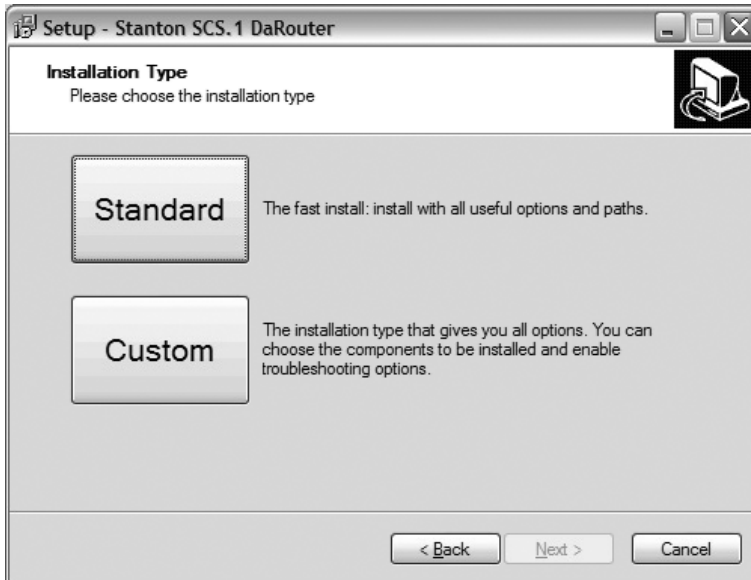

Figure 4.3
3. To install the software for the first time, choose the **Standard** option. To update your previously installed version, choose **Custom**. In this example, let's choose **Standard**. (Figure 4.3)